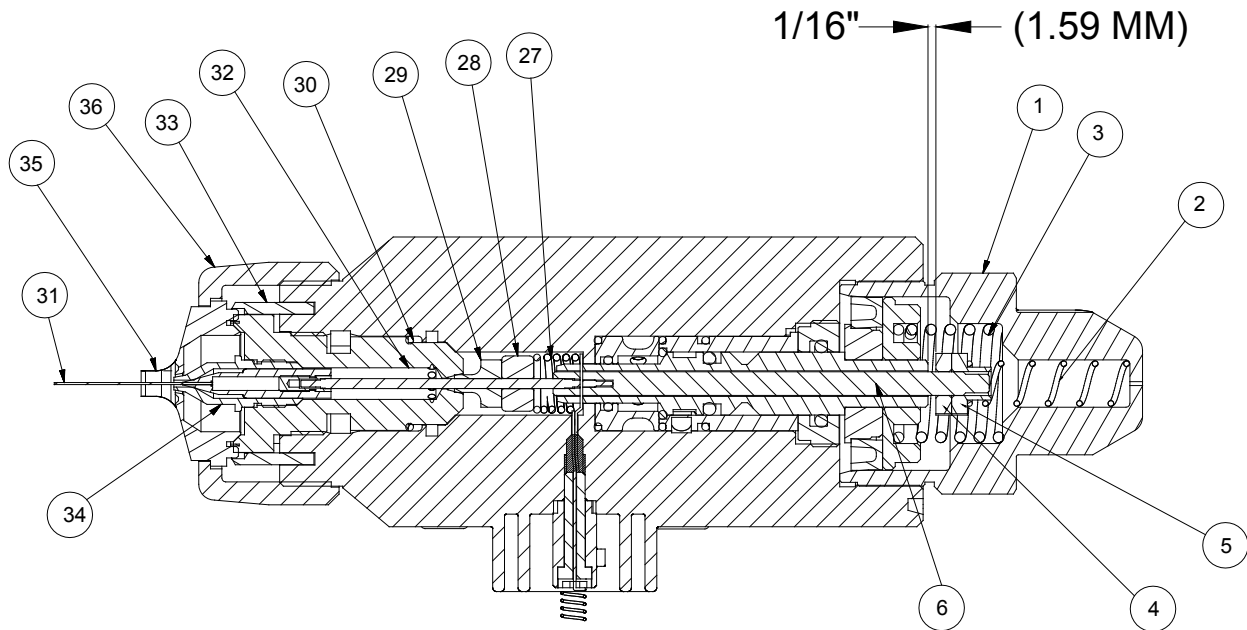

Figure 10b: Spray Head Assembly
SPRAY HEAD ASSEMBLY - PARTS LIST (Figure 10b)
3. Inspect the metal portion of the rear needle [6] for excessive wear. If wear is observed (longitudinal grooves or a noticeable reduction in diameter) replace the needle. Remove the two (2) lock nuts from the rear needle and save. When ever replacing rear needle section, you must also replace the seal [29] at the same time.
7. Insert the lubricated o-ring [30] into the applicator head. Gently push, with a small flat object, down upon its seating edge. Be careful not to push o-rings into fluid groove (see Figure 10b).
11. Reinstall the two (2) lock nuts [4] and [5] in the correct order on the back needle as shown making sure to maintain an 1/16" clearance (see Figure 10b).